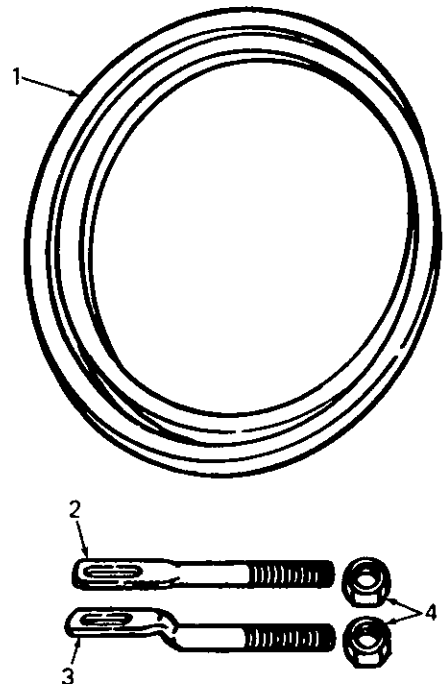
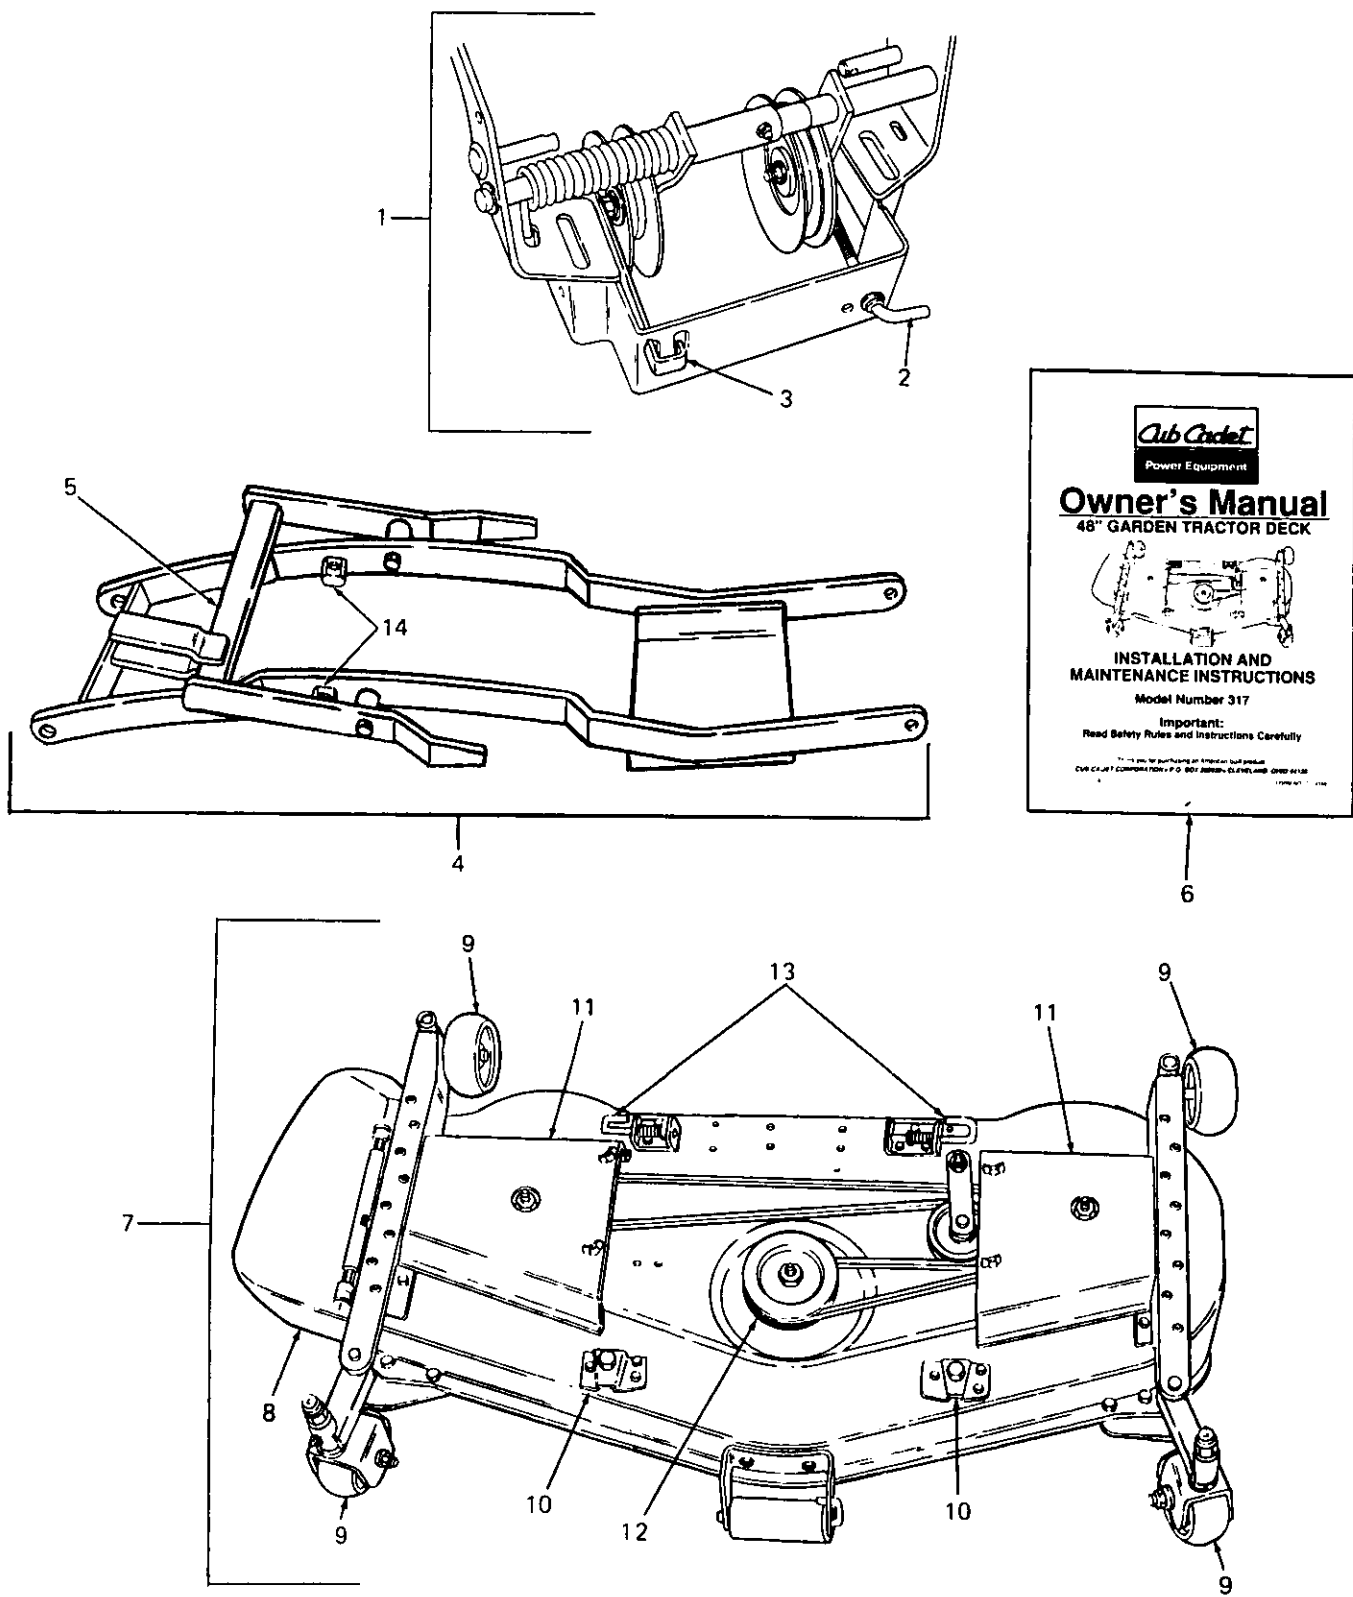

Figure 1
Figure 2
standard garden tractor, or 322 for super garden tractors) shown in Figure 1 and the deck components (317) shown in Figure 2.